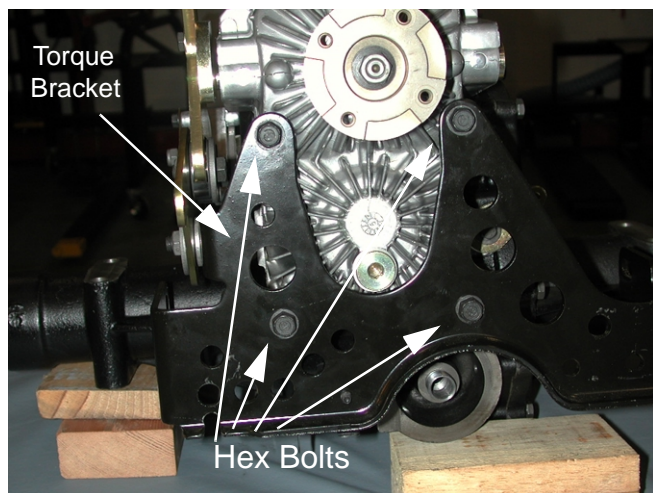

Figure 10
13. Remove all four 5.5" hex bolts securing the torque bracket, hydrostatic pump and long spacers to the transmission housing using a 1/2" socket. See Figure 10.